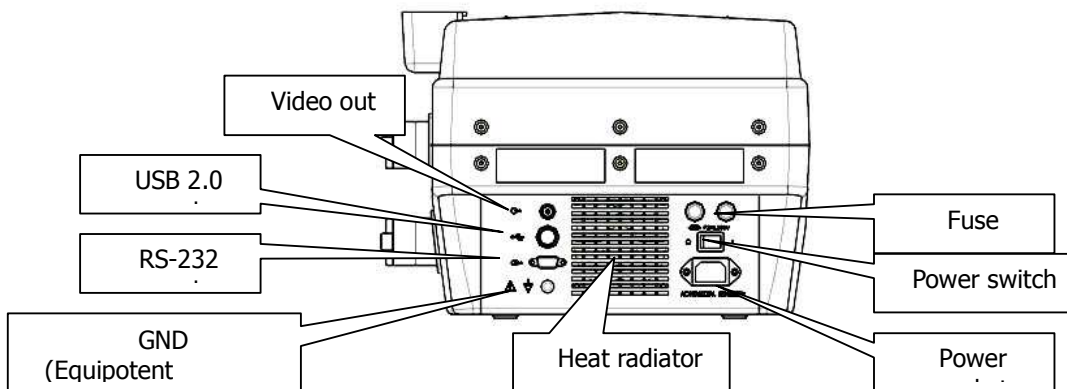

Figure 3-3. Back panel sketch
1. Check the power supply to see if it is in the expected range, then connect the equipment and the power socket with the cable (see figure 3-3).